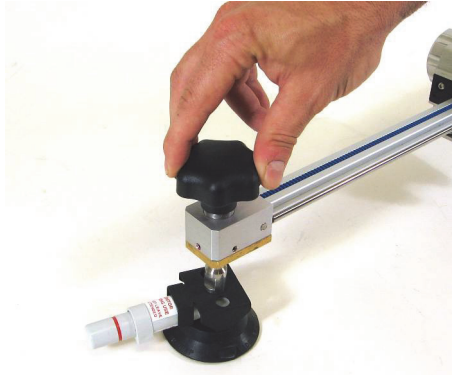

Figure 2-37 Loosening the pivot lock on a pod (manual type shown)
1. Loosen the pivot locks on the two mounting pods (see Figure 2-37 on page 51).